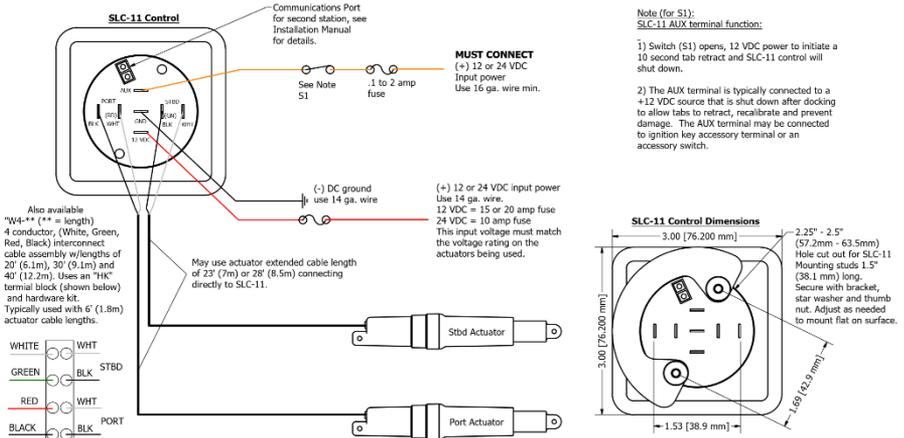

Fig. 5
2. If the W4-** cable is used to connect the switch to actuators, route the cut cable end from the control switch to the transom terminal strip. The push-on terminal end of the 20' (6.1m), 4-conductor, 14 AWG (2.08mm sq.) cable connects to the control switch (KA Kits), or route the longer 23' (7m) actuator cable directly to the control switch (XKA Kits). Connect cable to switch as shown in Fig. 5.
3. Connect a fused 12vdc or 24vdc power source as shown in Fig. 5. **Power source voltage must match the actuator voltage.** The AUX terminal on the control **MUST** be connected to a switched +12 or 24vdc source such as an ignition key switch or auxiliary panel switch. When the key switch is turned off, the tabs automatically retract.